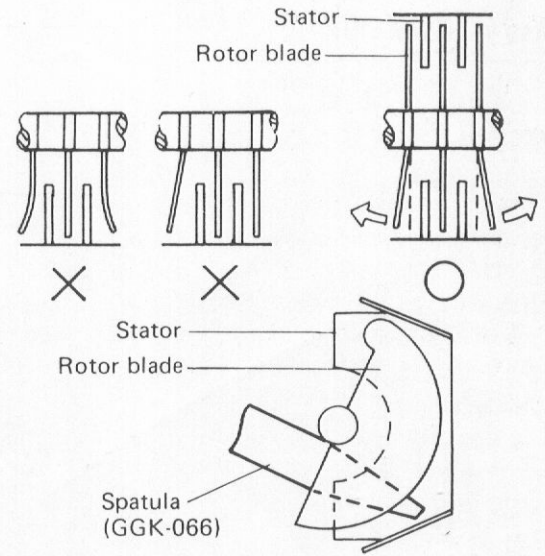

Fig. 8-3 Adjustment of Tuning Capacitor
- Tuning coil in the FM front end does not have an adjusting core. Consequently, tracking adjustment at 90MHz are performed by regulating the gap between rotor and stator of the tuning capacitors (VC1, VC2, and VC3). VC1, VC2 and VC3 adjusting that the two outer rotor blades of each of these tuning capacitors are to be extended outwards with spatula (Part No. GGK-066) as shown in Fig. 8-3.